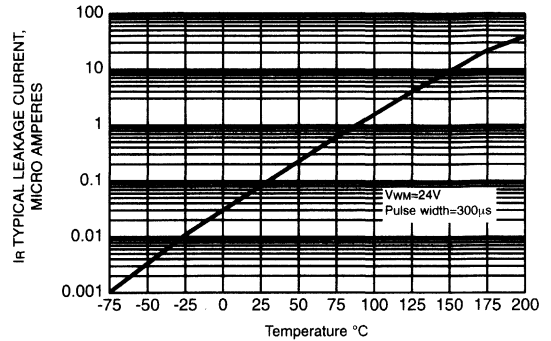

Figure 2
- Excellent high temperature reverse leakage characteristics (see Fig. 2). This TVS component has a 180°C upper temperature limit.